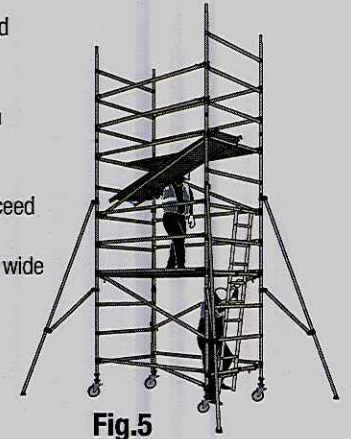

Fig.5
12. Remove the temporary platform and place it above to complete the working platform. The working platform should now include the ladder access platform and the access ladder-See Fig.5.
15. Repeat the above process installing working platforms with ladders at nominally 2m intervals – see Fig. 5